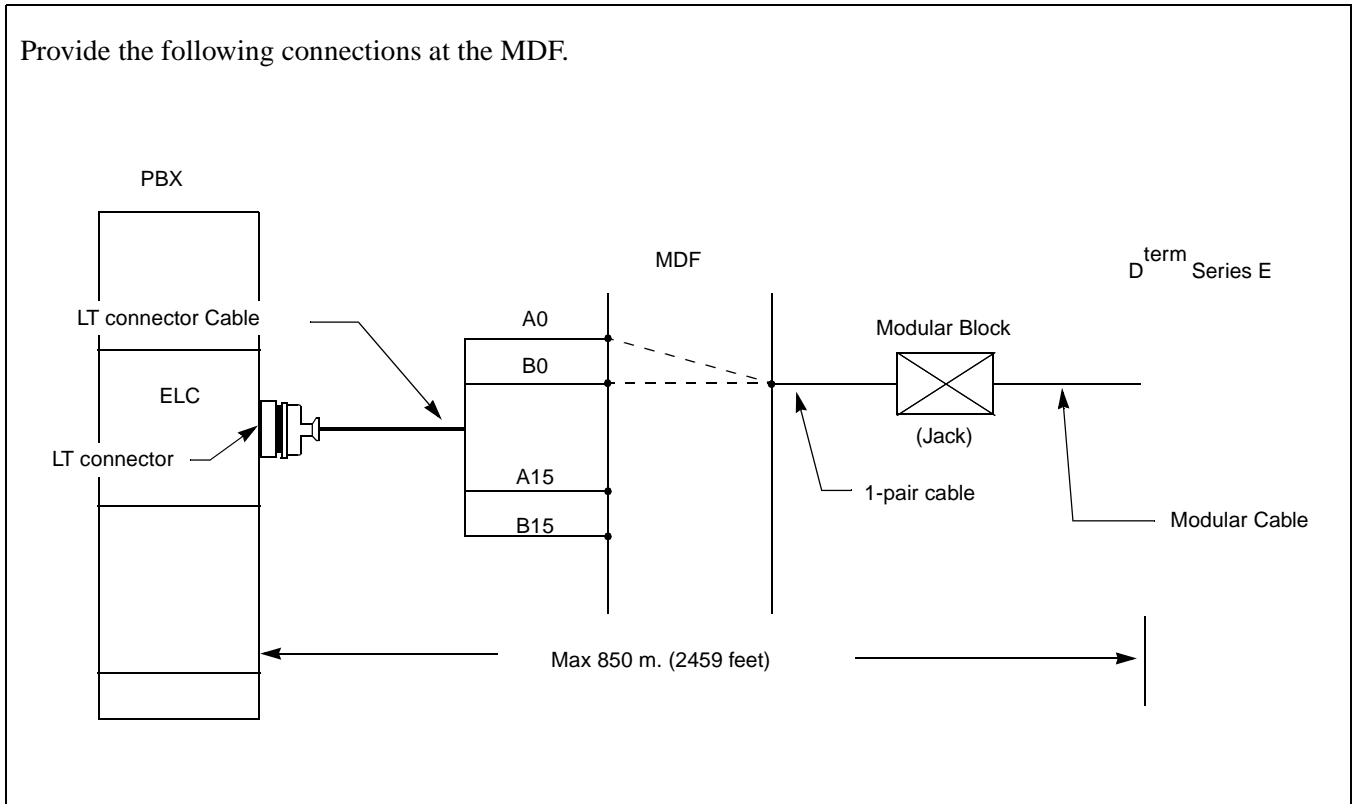

Figure 015-14 Cable Connection for D^{term} Series E
- Cable running — Referring to Figure 015-14, run the cables between each D^{term} and its Modular Block (Jack), and between the Modular Blocks and the MDF.
- Termination of cables — Referring to Figure 015-14, terminate the installed cables to the MDF and the Modular Blocks.
- Cross Connection — Referring to Figure 015-14, provide the necessary cross connections at the D^{term} side and the PBX side.